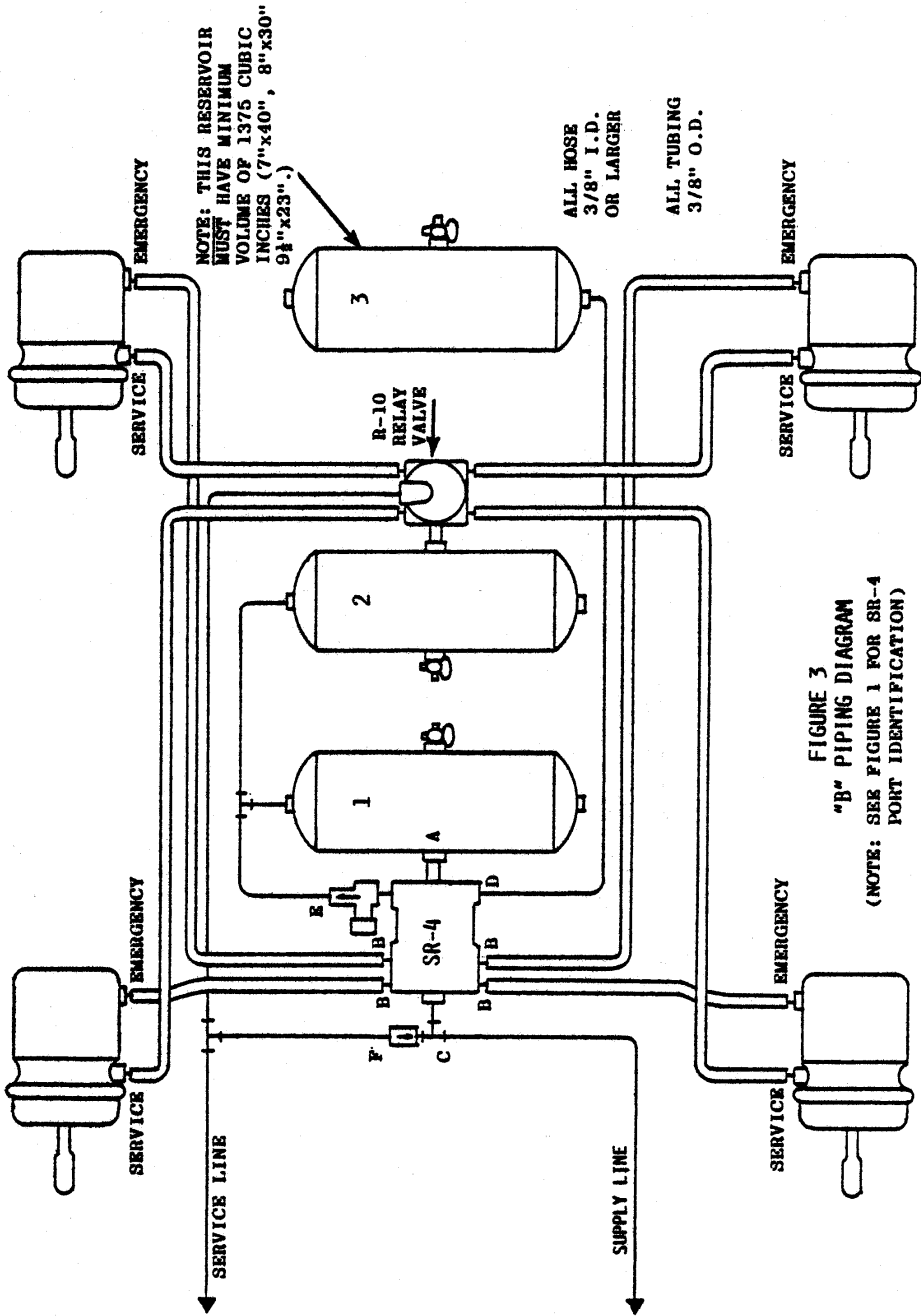

FIGURE 3
3. If three reservoirs are utilized, refer to piping diagram "B" (Figure 3), remove existing components as necessary and repipe as illustrated.